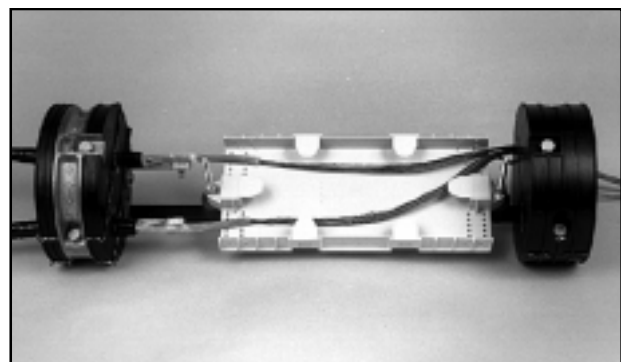

FIGURE 19A – TRANSITION ASSEMBLY SECURED TO END PLATES (6.5" X 22" DLX SHOWN)
10.01 Remove the torque bar attachment bolt from the End Plate and secure the Transition Assembly Torque Bar or Buffer Tube Storage Assembly Torque Bar to the End Plate. (Figures 19A & 19B)